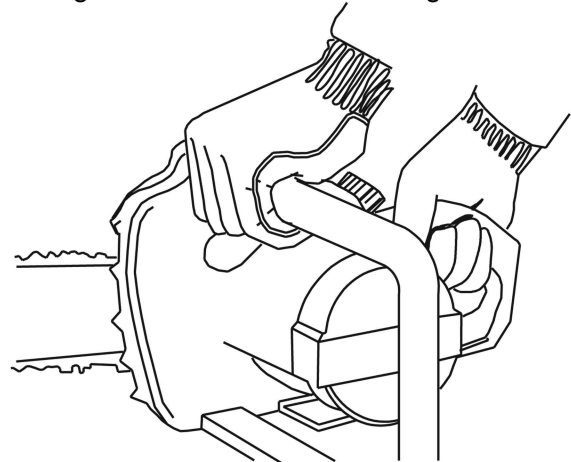

Figure 18: Holding the Chainsaw
4. Grasp the Handles with both hands. Always grip the handle with the thumb and fingers encircling the handle as shown in Figure 18.